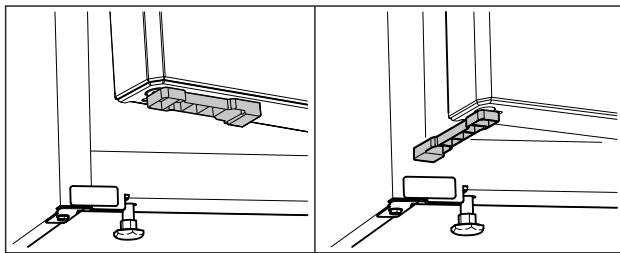

Fig. 78 *
- Turn door spacer by 90°. (see Fig. 78) *